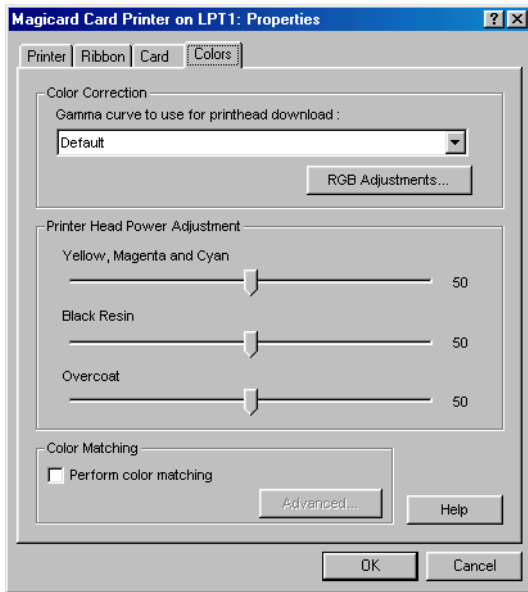

Figure 9: Printer Configuration Options – Color Tab
14. Click the Colors Tab and a window with color adjustment options appears (see Figure 9 on page 10).